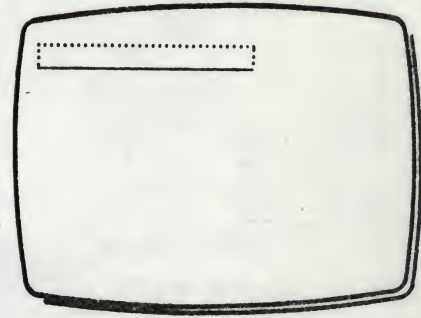

Fig 2
- 7 Position the box cursor as shown in Fig 2, making sure that none of the box is cutoff (i.e. outside the active area).